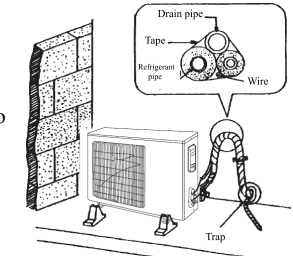

Fig.27
If the outdoor unit is installed higher than the indoor unit (See Fig.27).
- All pipes are bound and taped together and also should be trapped to prevent water from returning to the room (See Fig.27)